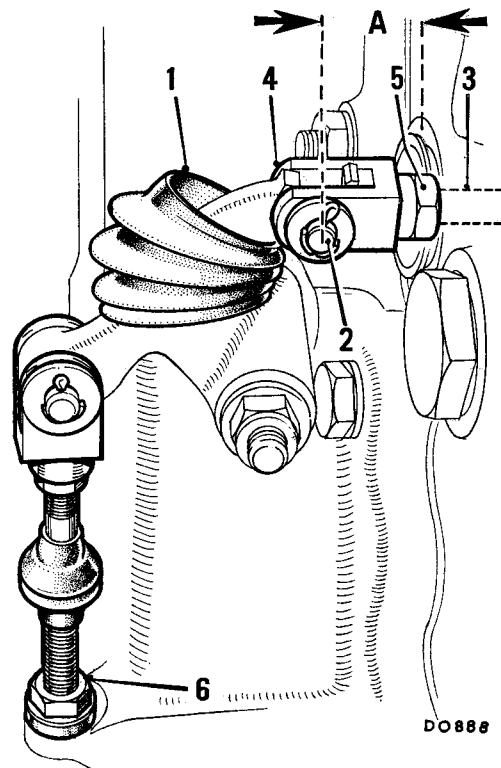

Fig. Fa.2
It is most important to carry out the adjustment procedure detailed below and refer to Fig. Fa.2.
- (8) Refit the clevis pin (2) into the selector rod yoke (4) and check the measurement given in Fig. Fa.2; adjust if necessary.
- (9) Slacken the locknut (5) behind the selector rod yoke and turn the yoke (4) until the correct measurement of $\frac{3}{8}$ in. (20 mm.) is effected (see Fig. Fa.2). Tighten the locknut (5), ensuring that the yoke is set squarely to the bell-crank lever arm.
- (10) Select 'N' in the transmission unit by pulling the selector rod fully out and then pushing it back in one detent.
The measurement 'A' in Fig. Fa.2 should now be 1.45 in. (37 mm.).
- (11) Select 'N' on the quadrant with the gear lever, and adjust the outer cable using the adjusting nuts (6) (see inset to Fig. Fa.2). The adjustment is correct when the clevis pin (2) can be easily refitted.